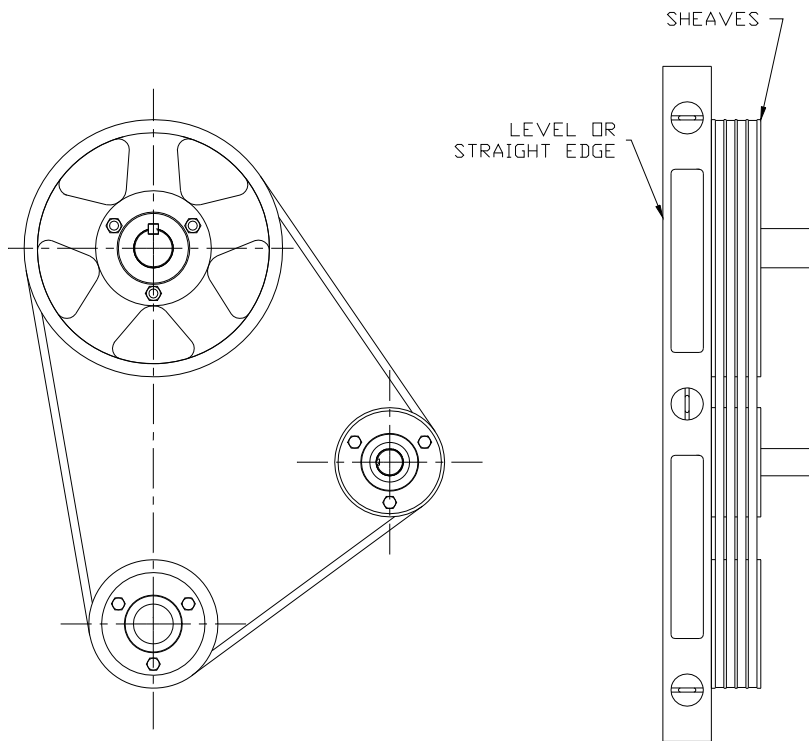

FIG 31
1. All sheaves MUST be aligned correctly to $\pm 0.0625''$, or premature belt failure may occur. Use a long level to check sheave alignment (see Fig 31).